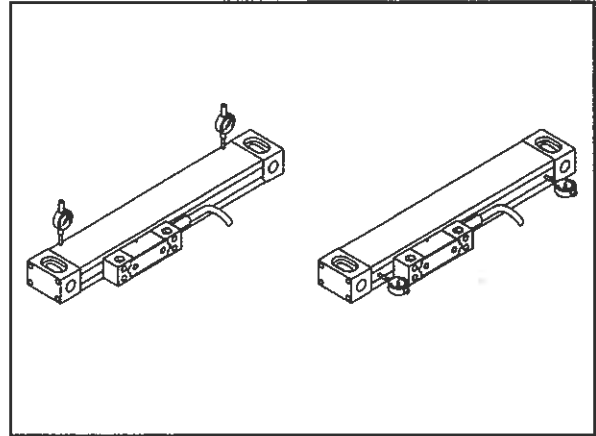

Figure 2. Horizontal scale alignment.
3. Indicators must be set up properly to ensure accurate measurement. Make sure indicator axis is perpendicular to the work. If a vertical dial indicator is used, as in **Figures 2 & 3**, it is important to ensure that the dial indicator is perpendicular to the measured surface to also avoid the cosine measurement error.